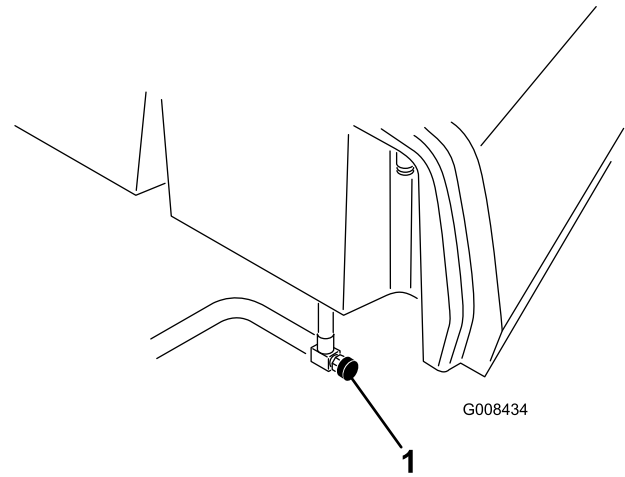

Figure 40
1. Close the fuel shut off valve (Figure 40) below the fuel tank.